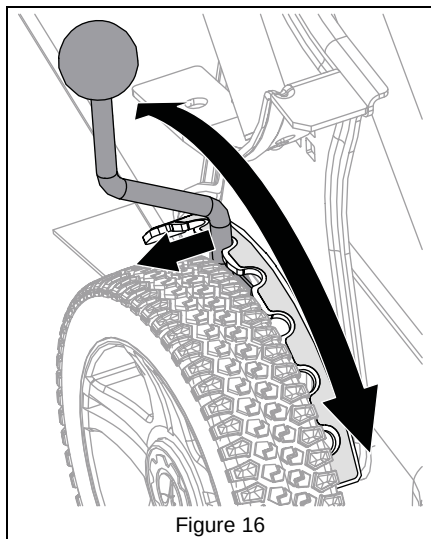

Figure 16
2. Pull cutting height-adjustment lever out of notch and rotate to desired setting. See Figure 16.